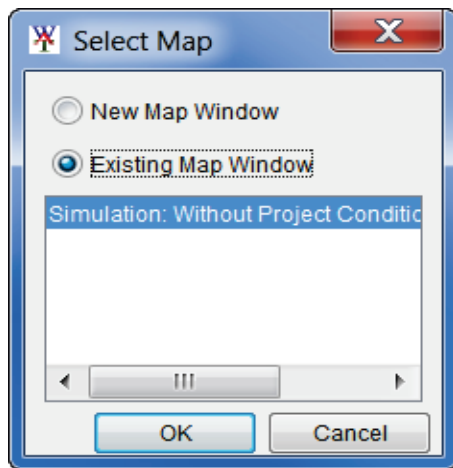

Figure 11.18 Select Map Dialog Box
3. If a map window is open in the **Desktop Pane** (Chapter 3, Section 3.2.2), the **Select Map** dialog box (Figure 11.18) will open. The user can choose whether to open the simulation map window in the current map window or in a new map window, click **OK**. The **Select Map** dialog box (Figure 11.18) will close, and the simulation map window for the selected simulation will appear in the **Desktop Pane**.